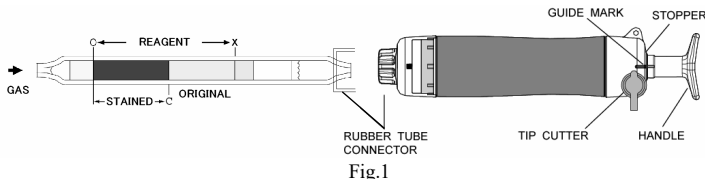

Fig.1
- ② Insert the detector tube into the aspirating pump securely as shown in Fig.1.
- ③ Align the guide marks on the shaft and stopper of the aspirating pump.
- ④ Pull the pump handle at a full stroke until it locks and wait for 3 minutes or until the completion of sampling is confirmed with the flow indicator of the pump (See descriptions about the flow indicator in the instruction manual of the pump).
- ⑤ On completion of sampling, remove the detector tube from the pump and read a concentration with the concentration chart in the following way.
- ⑥ When the concentration is below the scale range, 3 pump strokes can be used to determine concentrations of 5 to 300 ppm.